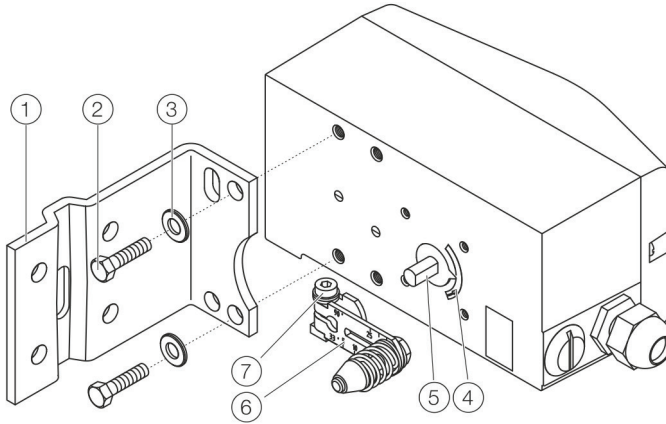
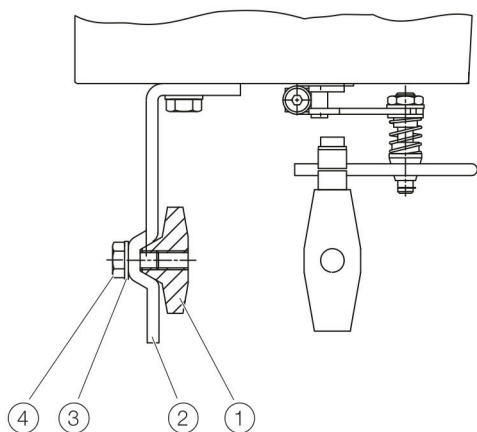

Fig. 6
Fig. 7
Set the valve mid stroke and align the lever horizontal (item 6 fig. 6).
Then tighten mounting bolt (item 4 fig. 7) (lever moves between the arrow marks item 4 fig. 6).